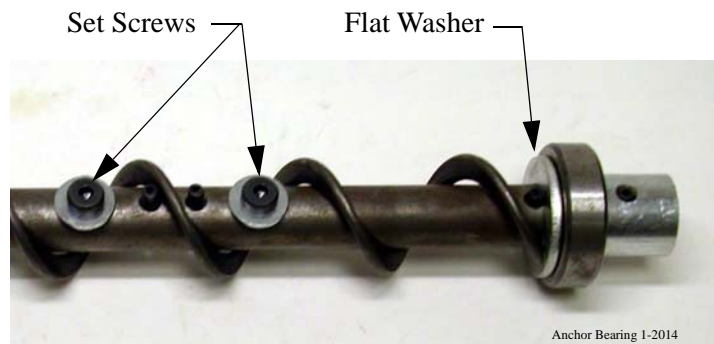

Figure 69. Auger and Anchor Bearing Connection
1. Insert the Anchor Assembly into the auger, guide the tip of the auger between the two roll pins in the center of the anchor. Continue to guide the auger until the tip of the auger hits the flat washer. Tighten the setscrews in the center of the anchor until they touch **Figure 69.**